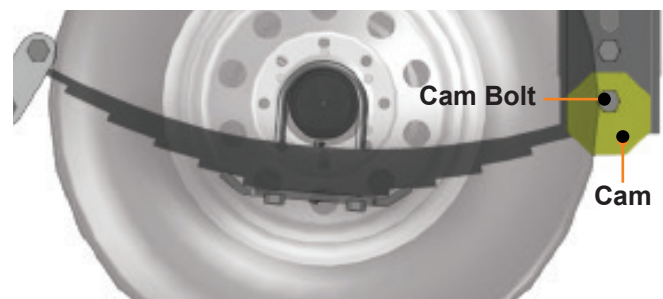

Fig.30
2. Loosen nut from backside of cam bolt (**Fig.30**).